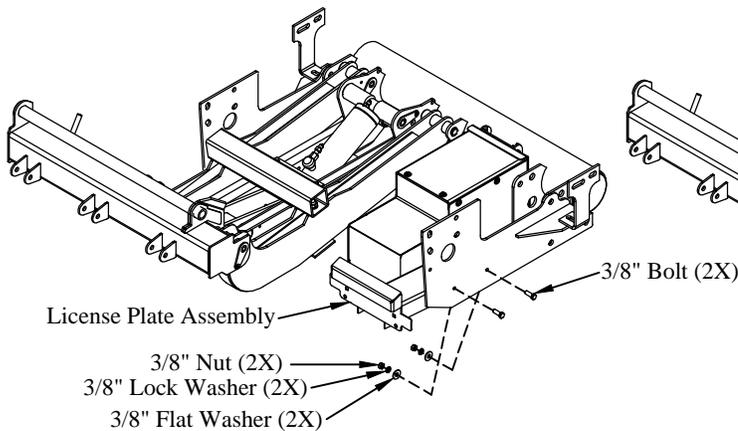

Figure 10: License plate assembly position.
- 8. Install** (4) M12 x 110mm bolts, (8) flat washers, (4) lock washers, and (4) nuts per side in the existing holes near the front of the lift (rear of truck). Do Not tighten at this time.
- 10. Attach** the license plate assembly to the bracket plate using the supplied 3/8" bolts, washers, and nuts (Figure 10).